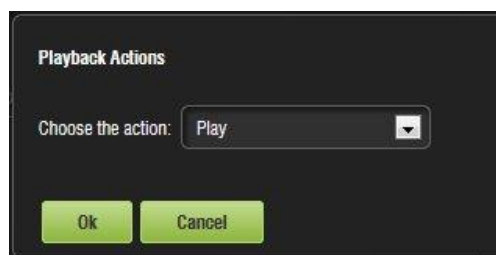

Figure 141: Playback Actions Setup Window
- The following window will appear (Figure 141):